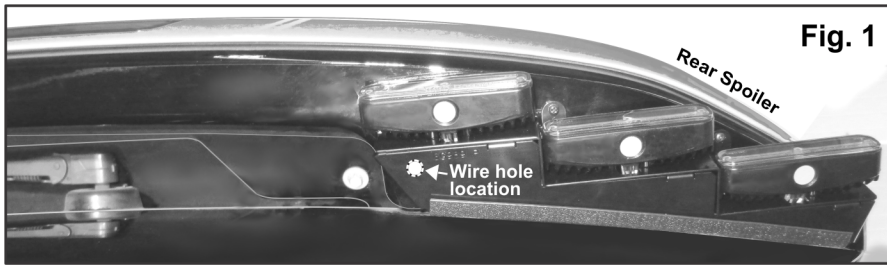
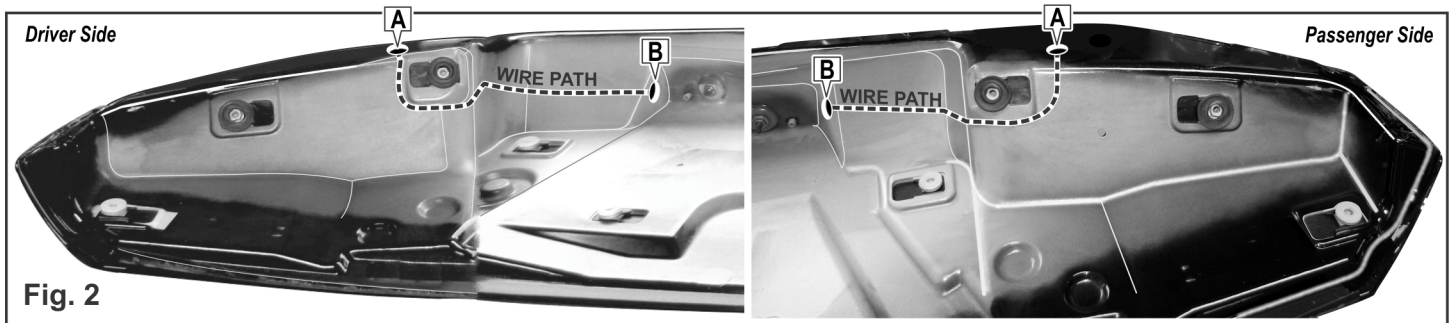

Fig. 1
Fig. 2
1. Each (half) lightbar will fit between the outer end of the spoiler and the curved indentation towards the inside. Figure 1 shows where the lightbar will sit on the vehicle. Figure 2 is a
indicated in figure 1 on both sides of the vehicle.
1. Each (half) lightbar fits between the outer end of the spoiler and the curved indentation towards the inside. Figure 1 shows where the lightbar sits on the vehicle. Position the passenger side of the lightbar in the exact mounting location and clearly mark the two mounting hole locations onto the spoiler. Repeat for the driver side of the vehicle, then (following factory specifications) remove the rear spoiler from the vehicle.
2. To locate where the wire holes are to be drilled refer to figures 1, 2 and 3. Figure 2 shows the spoiler with the plastic cover removed and indicates the four wire hole locations. The location of the wire hole will be directly under the inside lighthouse (Fig. 1). **Before removing the cover**, drill two 7/16" wire holes through both the plastic cover and spoiler in the two locations labeled "A" in Figure 2.
5. Drill two 7/16" wire holes in the locations in figure 2 labeled "B" and run both wire harnesses through as shown.